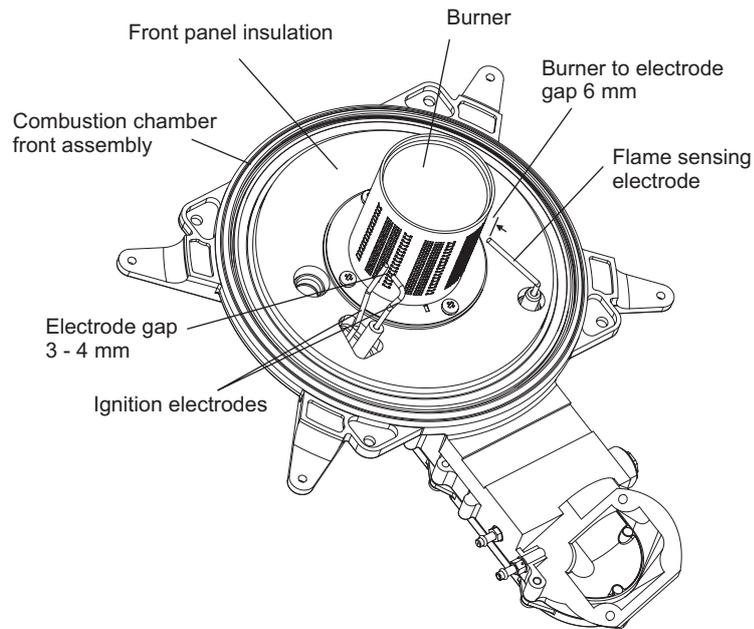

Fig. 30
6. Remove the four screws securing the burner (see Fig. 30) and remove the burner. Clean the burner with a soft brush and check that the flame ports are clear. Blockages may be removed with a stiffer brush. Tap the burner, open end down, to remove any deposits from inside.
8. Check the spark gap, positioning and height of the electrodes. See Fig. 30.
5. Place the front case panel in position and secure in position with the four screws previously removed, see Fig. 30.
7.3 ELECTRODES - Fig. 30
7.4 MAIN BURNER - Fig. 30